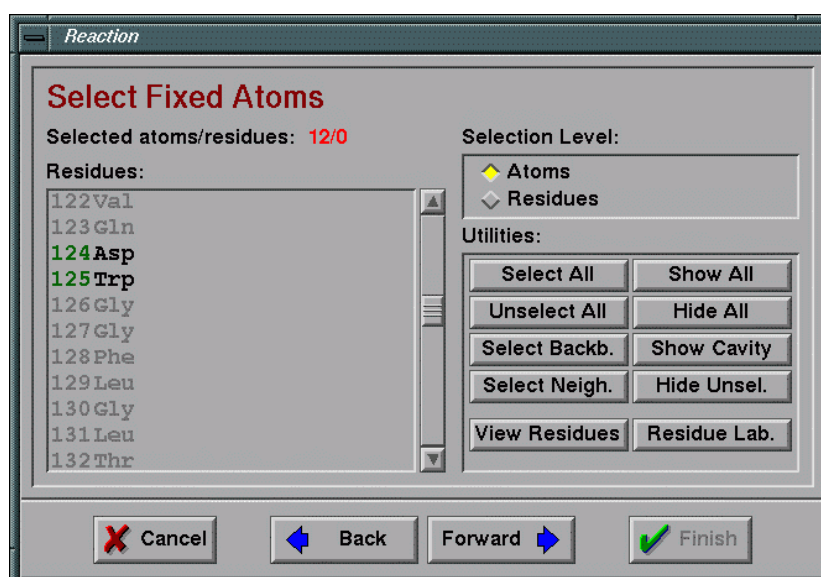

Fig 13.15 Window for selection of fixed atoms
- 11) Select atoms to be fixed during the reaction mapping (**Fig 13.15**). Some atoms of the cavity must be fixed to keep the overall geometry of the enzyme cavity intact. It is recommended to fix the heavy atoms of the backbone and let the side chains move during geometry optimization using *Select Backb.* option. Such a model provided satisfactory results for simulating conditions in the enzyme active site during the catalysis.
- You do not need to select any atoms to be fixed during the calculation. Your model has only one amino acid residue and you do not need to simulate mutual position of amino acids in active site of enzyme using fixation (**Fig 13.15**).